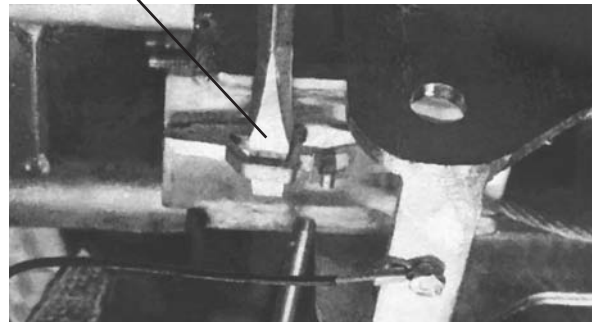

Figure S13: Emergency Break-Away System Manual Release
8. If the break-away system is accidentally applied while unhitching, insert a flat-bladed screwdriver into the slot of the break-away catch hole under the actuator and pry down to release. See Figure S13.